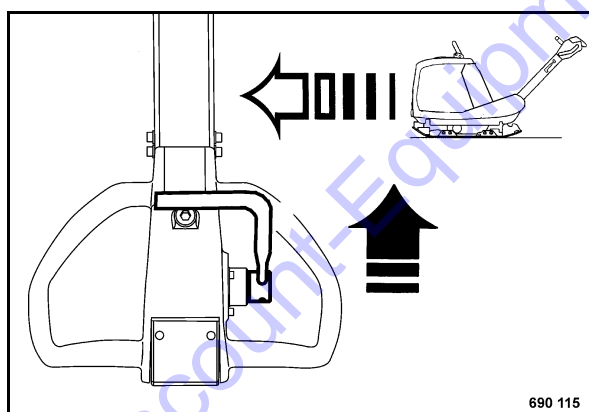

Fig. 24
- Move the travel lever (Fig. 24) forward as required for the desired speed.